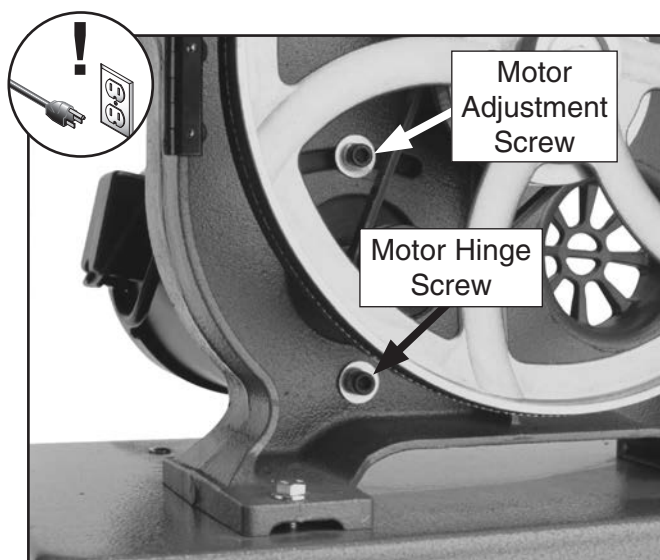

Figure 54. Motor mount screws.
2. Open lower wheel cover, and loosen motor mount cap screws shown in **Figure 54**.